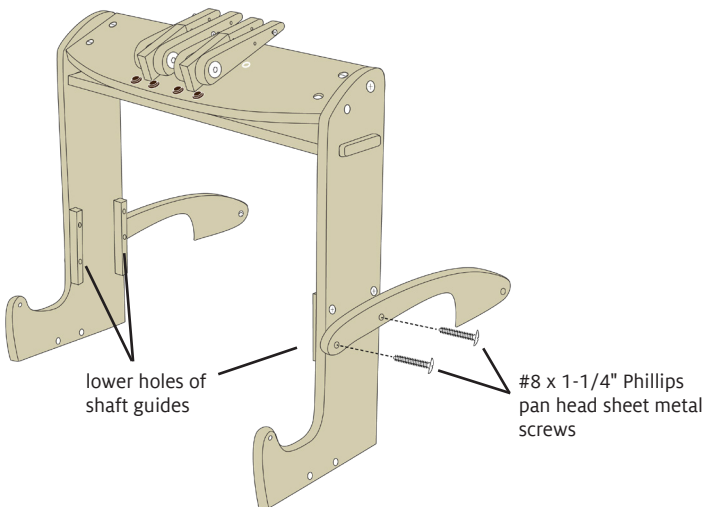

FIGURE 6: ATTACH BEAM EXTENSIONS
9. Orient the beam extensions on the outer sides of the castle, with their widest edges at the back of the loom (Figure 6). Insert #8 x 1-1/4" Phillips pan head sheet metal screws into each hole in the beam extensions, then attach to the castle side and the shaft guides through the lower holes of the shaft guides.